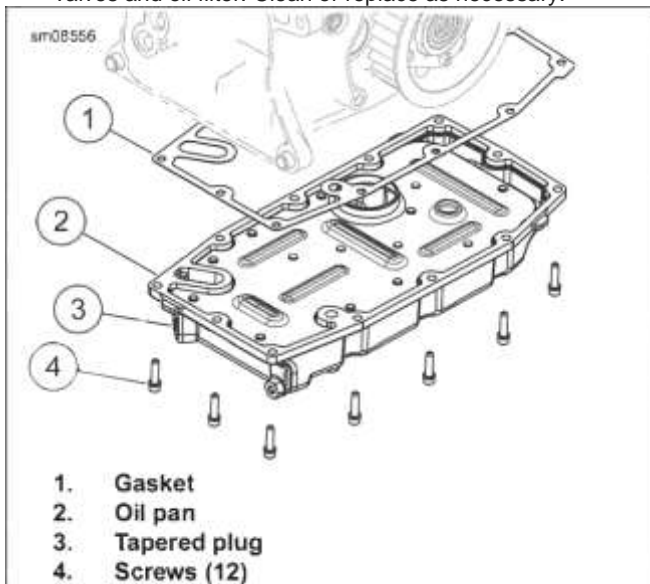

Figure 4-78. Oil Pan Assembly
2. See Figure 4-78. Remove oil pan.
- a. Remove 12 screws (4).
- b. Slide oil pan (2) rearward to remove.
- c. Discard oil pan gasket (1).
- d. If necessary, remove tapered plug (3).
5. See Figure 4-78. If removed, install tapered plug (3).